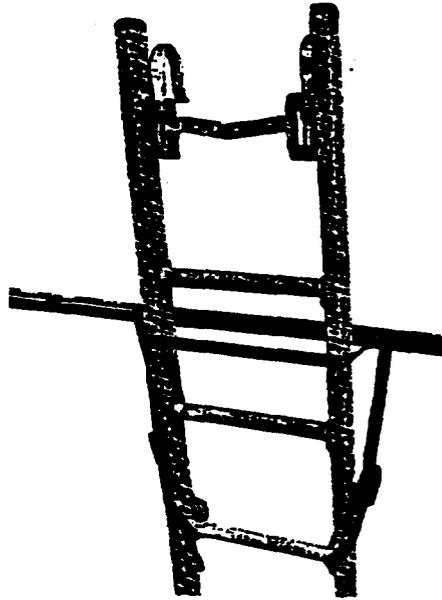

Fig. 8-Ladder Secured to Strand By Use of a Typical Top Ladder Lashing Device.
- 4.02 When a ladder is used with a platform on the strand, the top of the ladder must be secured to the strand as shown in Fig. 8.